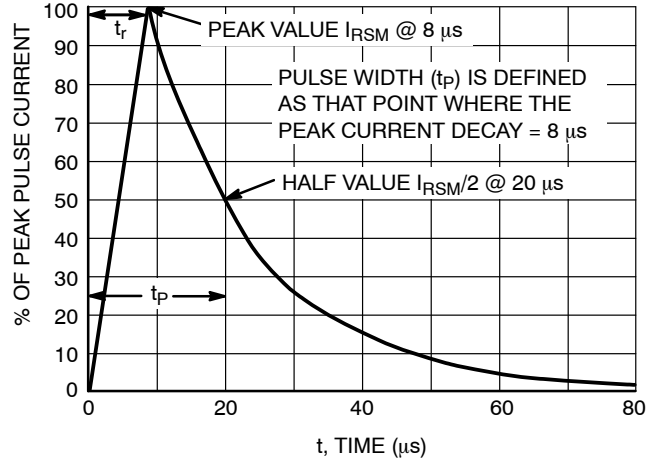

Figure 2. 8 × 20 μs Pulse Waveform
- Peak Power: 150 W @ 20 μ s (Unidirectional), per Figure 2
3. Non-repetitive pulse per Figure 2.